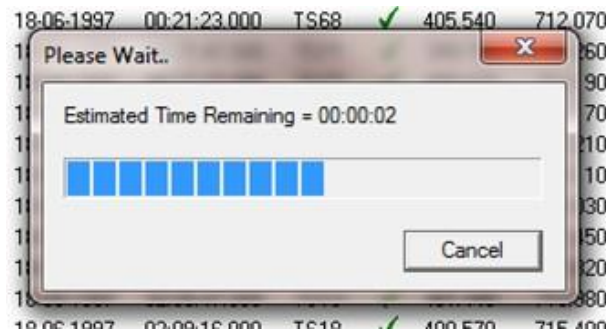

Figure 15-5: Timer Showing the Estimated Computation Time.
2. Once the variables are set in the Structural Analysis Configuration menu click OK to perform the calculation. The time for this process depends on the number of enabled events; a timer provides an estimate of this computation time (Figure 15-5).